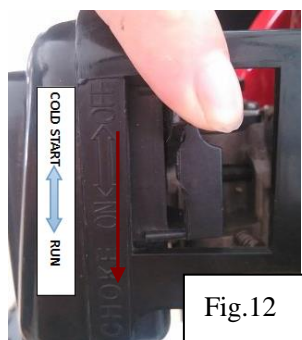

Fig.12
4. Move the choke lever downwards to the “run” position (warm start) .(see Fig.12)